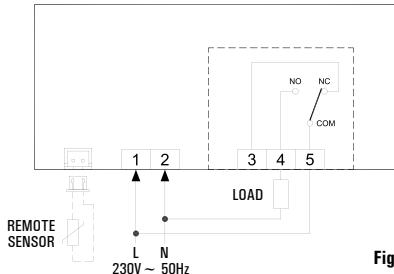

Fig. 5
- Make the electrical wirings following the connection diagrams of Fig. 5 and 6.
The outputs, terminals 3, 4 and 5, are tension-free and insulated with double insulation from the other parts of the thermostat. So, it is possible to power the thermostat with an high tension (230V ~) and, at the same time, control a load at a low tension SEL (24V ~), as can be seen in Fig. 5 and 6.